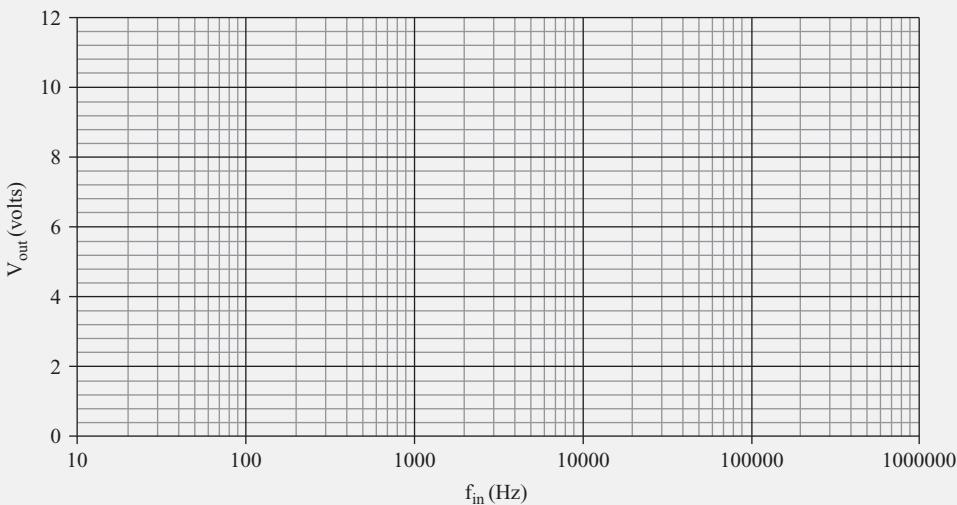

FIGURE 6.11
9. In the blank graph shown in Figure 6.11, plot V_{out} versus f_{in} with the voltage on the vertical axis and the frequency on the X axis. The curve should have the same shape as the curve shown in Figure 6.9, but don't worry if your curve is shifted slightly to the right or left.